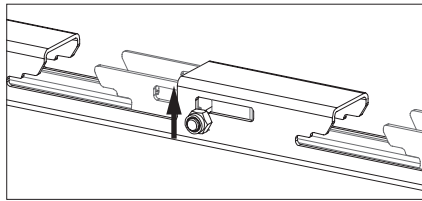

Fig. A4.17
- Hold the platform beam with one hand.(Fig. A4.17)